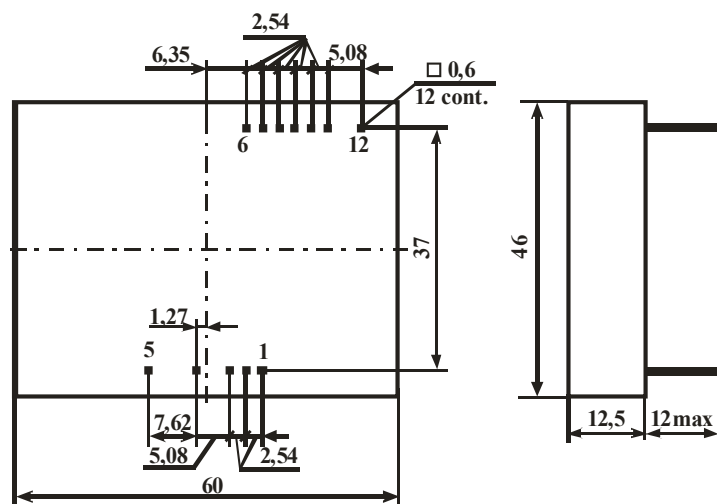
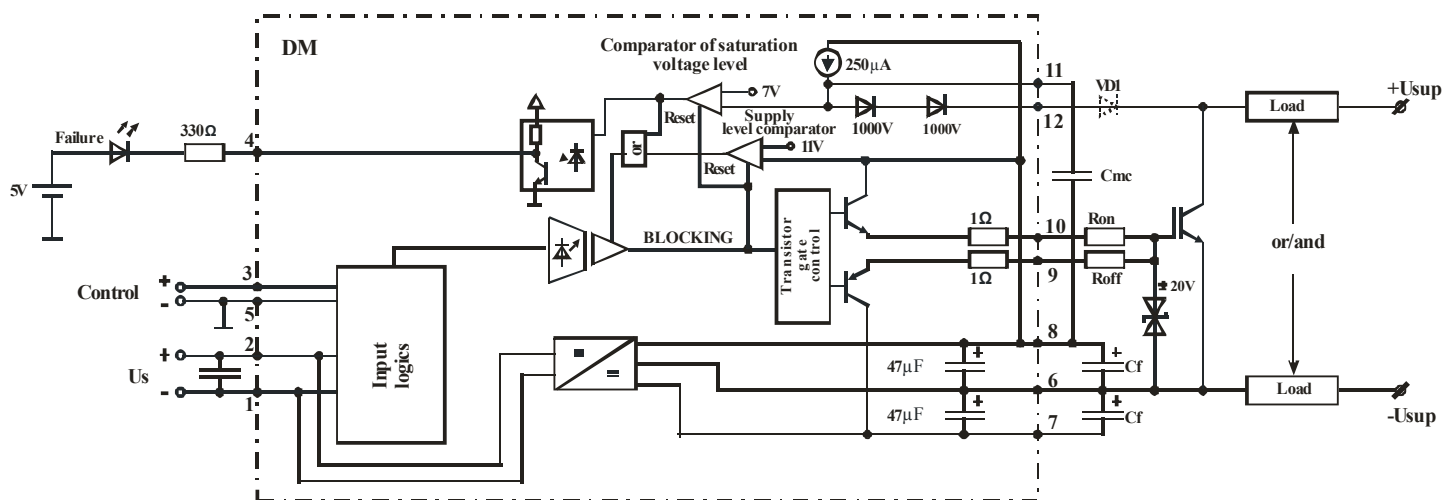

Figure 1 – Overall driver drawing
Figure 2– Functional circuit and driver turn-on circuit
3.1 Overall drawing is shown at Figure 1, functional circuit and driver turn-on circuit are represented at Figure 2.
MC – collector connection output (drain) of controlled transistor. Output is intended for voltage fall control (saturation protection) on the transistor. Meanwhile maximum protection operation threshold value is equal to 5.8 V. Protection operation threshold is regulated by external elements setup (Zener diodes and diodes); voltage fall on Zener diodes and diodes at current 250 μ A is deducted from the maximum voltage (5.8 V). For instance, if Zener diode with rated Zener voltage 3.3 V and two diodes with voltage fall 0.7 V at current 250 μ A are installed sequentially (ref. to recommended connection circuit at Figure 2), then protection operation threshold will be equal to $5.8 - 3.3 - 2 \times 0.7 = 1.1$ V.
OUToff, OUTon – outputs, meant for connection of controlled transistors gates. The recommended connection circuit is shown at Figure 2. Voltage limiter should be set with rated breakdown voltage not less than 16 V and not more than maximum-permissible gate voltage. It is recommended the limiter with rated breakdown voltage 18 V. It is allowed to install Zener diodes with corresponding rated Zener breakdown. If the controlled transistor is installed at remote distance from the driver, then the limiter should be installed directly to the transistor.